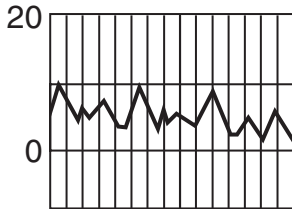

Figure 27
- Observe for central venous pressure waveform obtained by a calibrated pressure transducer attached directly to the introducer needle/catheter (refer to Figure 27).